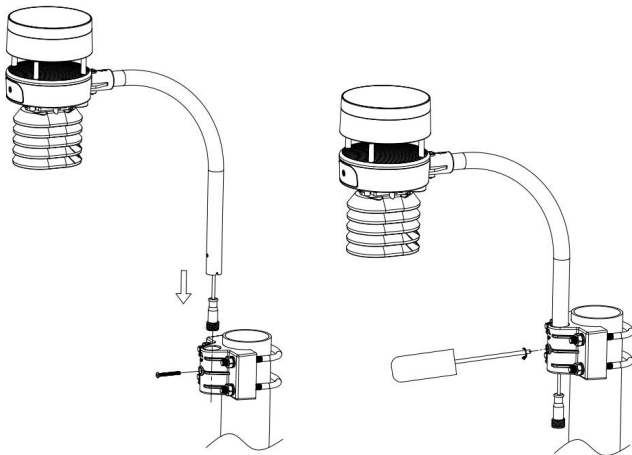

Figure 11: Sensor package mounting diagram 5-4
4. Insert the arm tube into the base as Figure 11. Be sure to line up the small hole in the arm with the holes in the base. Insert the machine screw through the holes in the base and arm. (if you don't need to power up the heater, you should keep the power cord terminal inside the mounting arm and this can make the installation looks neat and tidy. You may take it out when needed.)